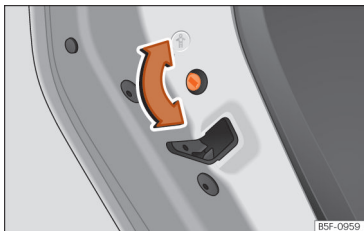

Fig. 96 Childproof lock on the left hand side door.
- With the door open, rotate the groove in the door using the ignition key, clockwise for the left hand side doors »» Fig. 96 and anti-clockwise for the right hand side doors.
- With the door open, rotate the groove in the door using the ignition key, anti-clockwise for the left hand side doors »» Fig. 96 and clockwise for the right hand side doors.